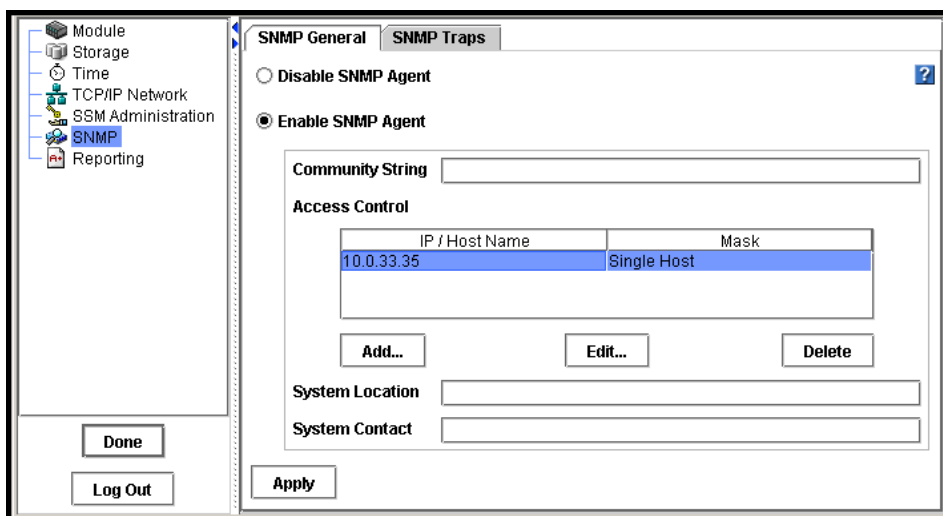

Figure 110. Editing a Host in the Access Control List
1. Select a host listed in the Access Control list, shown in Figure 110.